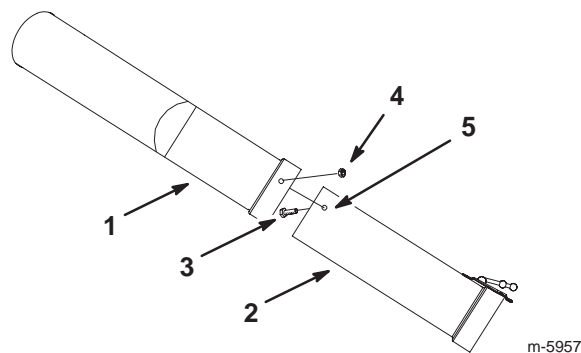

Figure 17
5. Install the upper tube onto the straight tube. Be sure both tubes are aligned (Fig. 17).
6. Using the upper tube as a template, mark the hole locations on the straight tube (Fig. 17).
8. Drill 3 holes (9/32 inch dia.) into the straight tube (Fig. 17).
9. Install the upper and straight tube with 3 carriage bolts (1/4 x 3/4 in.) and 3 flange nuts (1/4 in.) (Fig. 17).